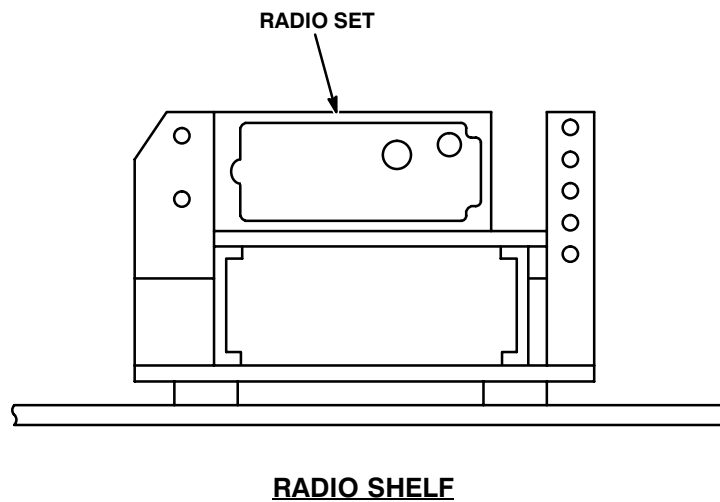

Figure 5-1 (2). MK and Radio Installation: Radio Equipment Locations
5.1 Installation of Antenna AS-3900/VRC (antenna). See figures 5-1 (1) for location.